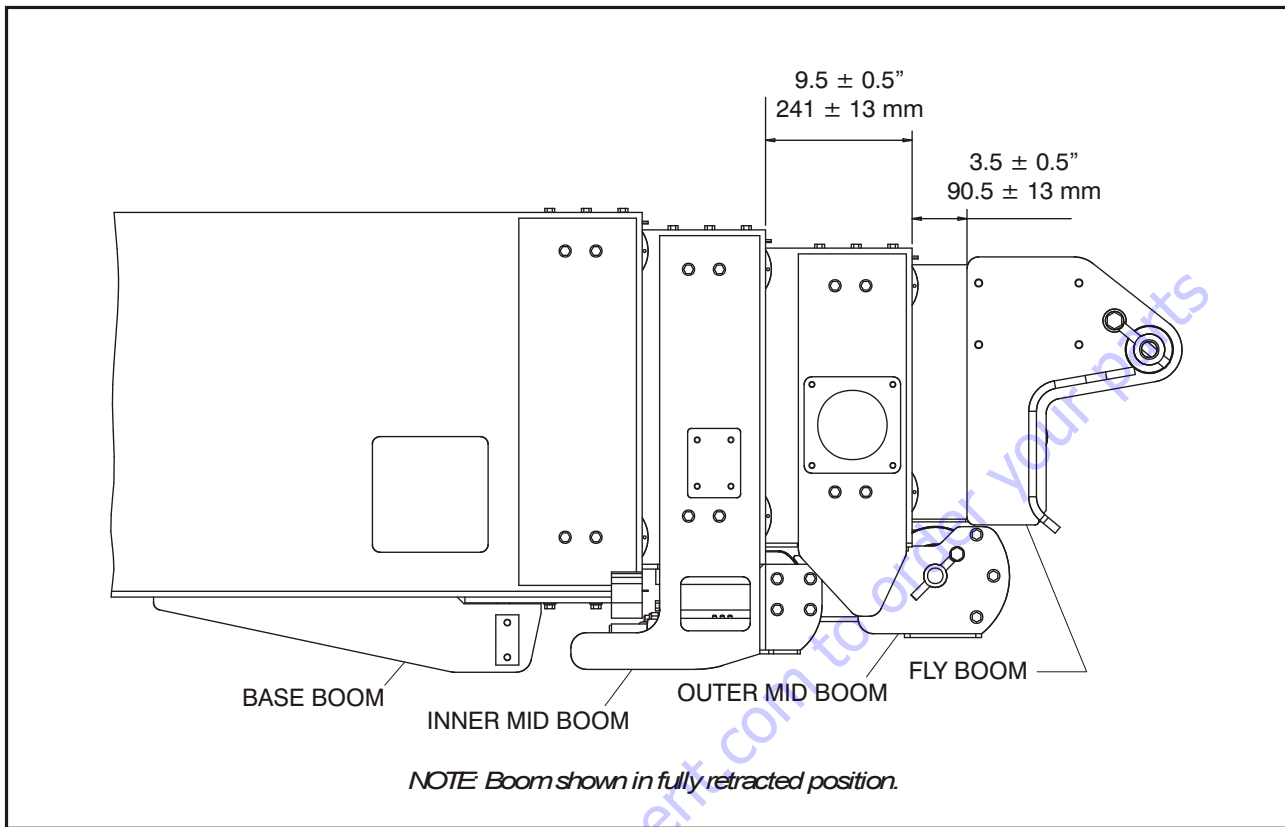

Figure 4-36. Wire Rope Tensioning
Before adjusting wire rope tension, the boom sections must be in the proper position as shown in Figure 4-36., Wire Rope Tensioning. This is so the wire ropes are equalized on both sides of the sheaves and are seated properly in the sheave grooves. This is necessary for proper tensioning of the wire ropes.
3. Take preliminary measurements of the position of each boom section and compare them to Figure 4-36., Wire Rope Tensioning. If the measurements fall within the tolerances in the figure, proceed to Wire Rope Tensioning in this section.
If the measurements do not fall within the tolerances in Figure 4-36., Wire Rope Tensioning, adjust the booms using the re-positioning procedures that follow.
If the Outer Mid Boom falls within the dimension and tolerance of Figure 4-36., Wire Rope Tensioning, proceed to the Fly Boom Section Positioning procedure in this section. If the Outer Mid Boom section is outside of the tolerance as shown, perform the following procedure.
7. Verify that the exposed boom section dimensions meet the dimensions and tolerances of Figure 4-36., Wire Rope Tensioning.
- a. If the Outer Mid Boom still does not fall within the dimension and tolerance of Figure 4-36., repeat the Outer Mid Boom positioning procedure.
- b. If the Outer Mid Boom falls within the dimension and tolerance of Figure 4-36., proceed to the Fly Boom Section Positioning procedure in this section.
NOTE: Because the Outer Mid Boom is used to control the movement of the Fly Boom, any repositioning of the Outer Mid Boom Section will also affect the position of the Fly Boom section. After repositioning the Outer Mid Boom, always check the Fly Boom position per Figure 4-36.
If the Fly Boom section location and the Outer Mid Boom section location are both within the dimensions and tolerances in Figure 4-36., proceed to the Wire Rope Tensioning Procedure in this section.
If the Fly Boom section is outside of the tolerance as shown in Figure 4-36. while the boom assembly is fully retracted, perform the following procedure:
5. Verify that the exposed boom section dimensions meet the dimensions and tolerances of Figure 4-36., Wire Rope Tensioning.
- a. If the Fly Boom still does not fall within the dimension and tolerance of Figure 4-36., repeat the Fly Boom Section Repositioning procedure.
- b. If the Fly Boom falls within the dimension and tolerance of Figure 4-36., proceed to the Wire Rope Tensioning Procedure.
NOTE: Verification of the rope tension should be determined by proper function of the boom assembly and by the dimensions and tolerances of Figure 4-36., Wire Rope Tensioning.